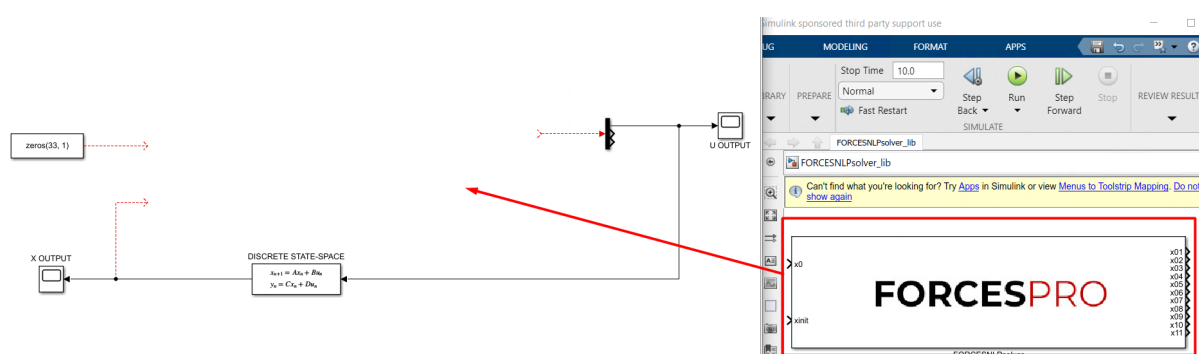

Figure 13.92: Copy-paste and connect the FORCESPRO block.
6. (Figure 13.92) Copy-paste the FORCESPRO Simulink block into your simulation model and connect its inputs and outputs appropriately.